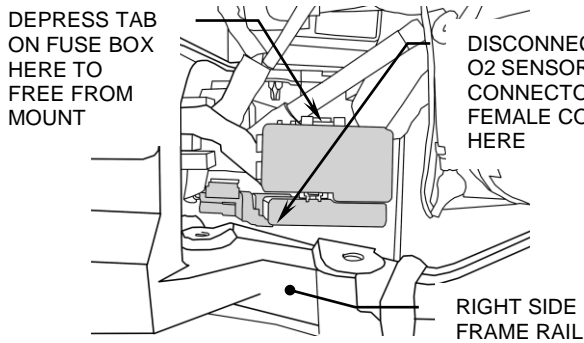

FIGURE 3
5. Locate the oxygen sensor on the muffler body near the power valve and trace the wire on it back up to under the seat, where it's male and female connectors are located. Move the fuse block out of the way, by depressing the plastic tab between the housing and the steel-mounting tab, and pull it upward out of the way to gain access to the oxygen sensor connectors mounted on the plastic tab. Disconnect the oxygen sensor by pulling the tab on the female connector outward and pulling the male connector towards the front of the bike, see Figure 3.